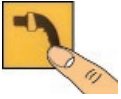

Figure 6.3: Selecting Single -Sided weld mode
1. Make sure the welder is turned on. Push the Single-Sided weld mode button (fig 6.3). Single Sided Weld Programs will display on the screen (fig. 6.5).
1. Push the Single-Sided weld mode button (fig 6.3). Single Sided Weld Programs will display on the screen (fig. 6.5). The i4 software defaults to Single Spot Weld Mode (fig. 6.6).